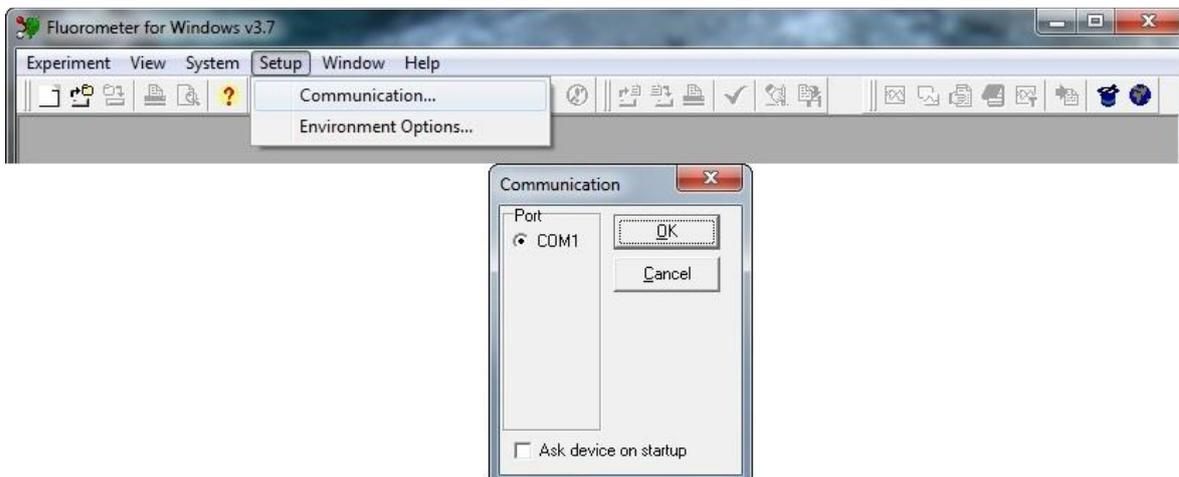

Fig. 24 Communication setting.
- Go to the top line menu and select **Setup > Communication...** Program will start scanning all installed ports on your computer. Not used ports are disabled. Select the COM port (i.e. COM1) to which you have connected the Thermoluminescence and click OK (Fig. 24).